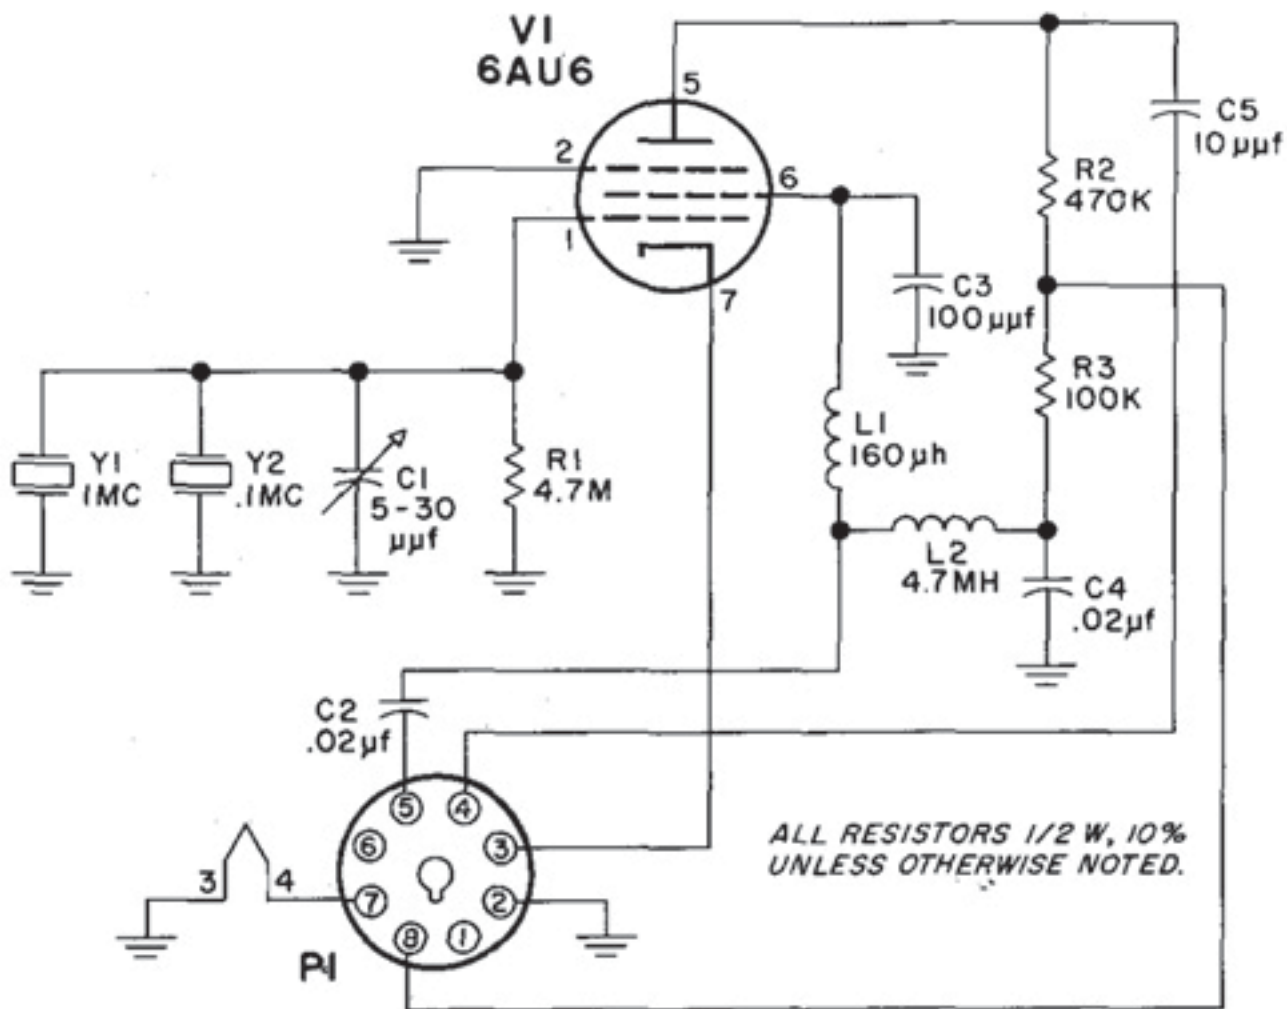

Figure 10. Schematic, XCU-400 Crystal Calibrator
**Calibrator Check.** The NC-400 receiver provides a control for adjusting the crystals in the calibrator to WWV, by an adjustment (C1, Figure 10) in an opening in the calibrator case. Check the adjustment by tuning station WWV on the receiver, turning the CALIBRATE switch to the 100 kc position, and zero-beating with WWV. A small readjustment of C1 may be required to compensate for crystal and component aging over long periods.